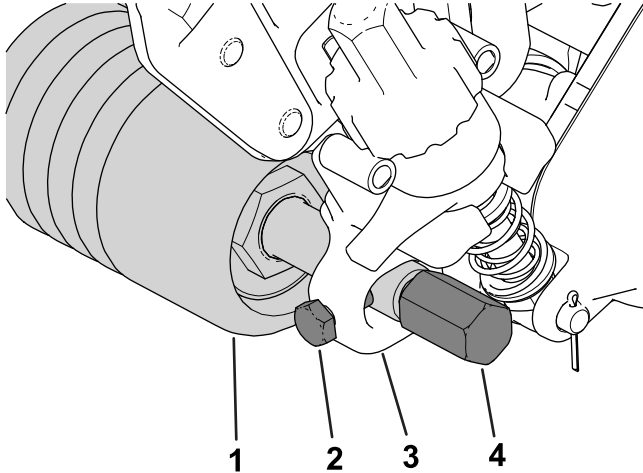
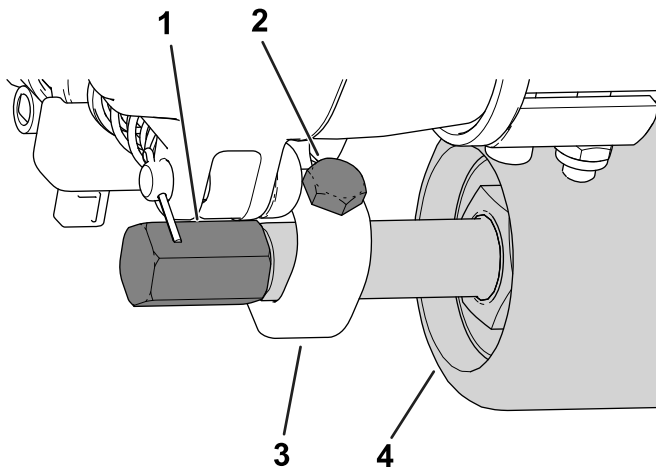

Figure 14
Figure 15
5. Insert and center the roller shaft between the height-of-cut (HOC) brackets and secure it with 2 mounting screws (Figure 14 or Figure 15).
You can install the mounting screws in the front (as shown in Figure 14) or rear side (Figure 15) of the HOC brackets. Installing the screws in the front side will allow the groomer to clear the roller; installing them in the rear side will allow the groomer to interlace with the roller.
6. Attach the groomer guards to both sides of the roller shaft (Figure 14).